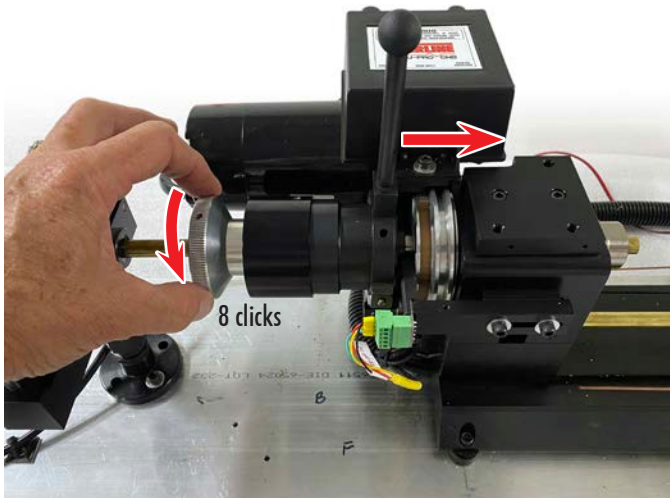

FIGURE 4
- F. Now, with the collet open, turn the draw bar knob (P/N 30018) clockwise (8) “clicks” (see Figure 4).